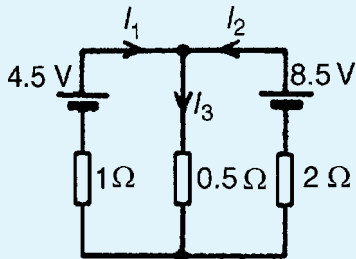

Figure 13.25
1. Use the superposition theorem to find currents I_1 , I_2 and I_3 of Fig. 13.25